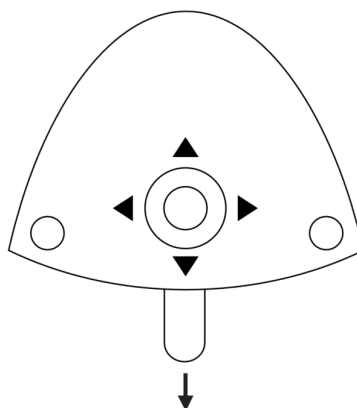

Figure 67 – Configuration using the foot control
2. Activate ▲ / ▼ or ↓ – see Figure 67 – to browse the parameter to change (see Table 5)
3. Activate ▲ / ▼ or ↓ – see Figure 67 – to browse the parameter to change (see Table 6)